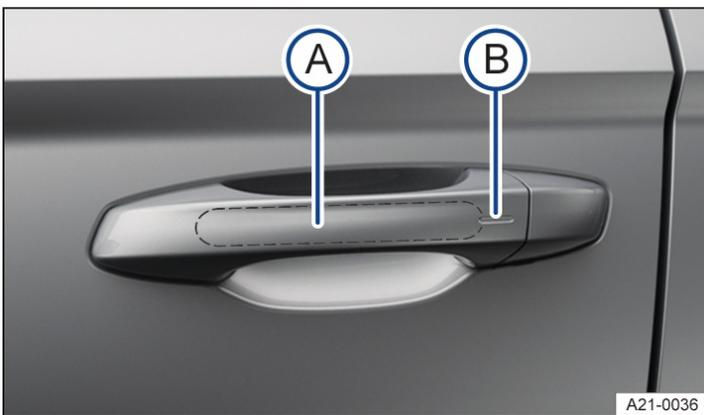

Fig. 2 In the door handle: sensors.
1. Tap sensor → Fig. 2 **A** on the inside of the driver or front passenger door handle.
3. Tap sensor → Fig. 2 **B** on the outside of the driver or front passenger door handle.
2. Then touch the sensor on the outside of the door handle → Fig. 2  once within 5 seconds. Do not put your hand around the door handle when doing this.